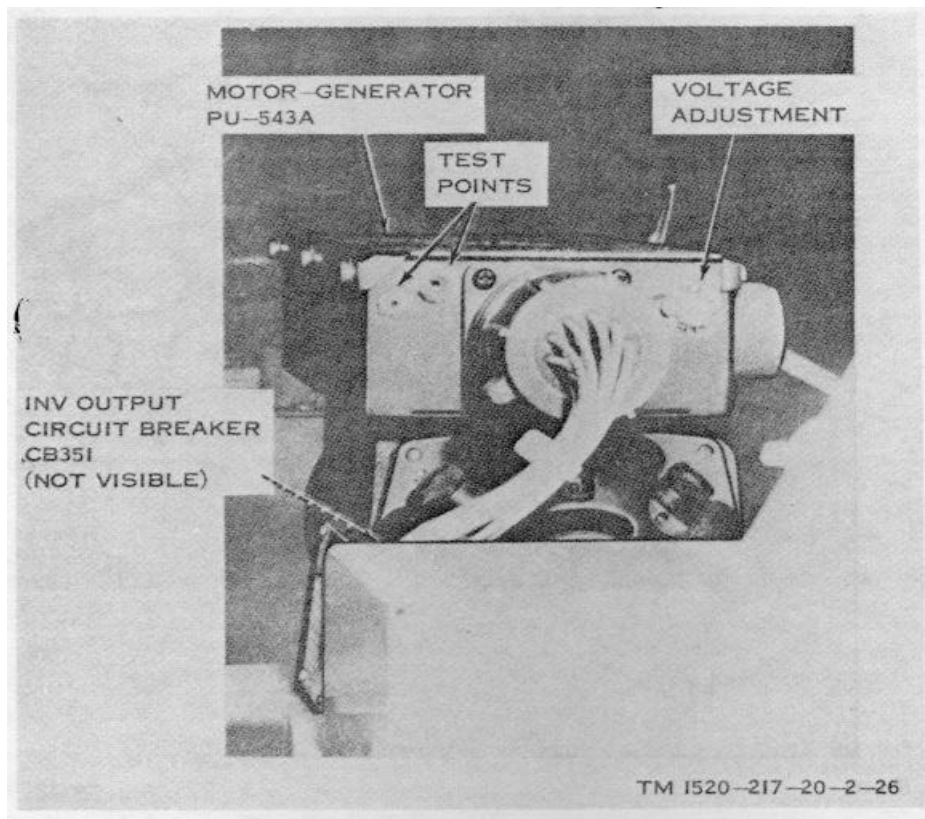

Figure 2-21. Motor-Generator PU-543/A location
(4) Install and secure connector to BB434/U.
(5) Install safety wiring on connector.
(6) Release support rods, clip rods to shelf, and close and secure nose electronics compartment door.
c. Removal of Motor-Generator PU-543/A (fig. 2-21).
(1) Using pair of diagonal pliers, cut and remove all safety wiring fastened to PU-543/A electrical plug.
(2) Disconnect electrical plug from PU543/A.
(3) Remove attaching screws -and remove PU-543/A from attic shelf.
d. Replacement of Motor-Generator PU-543/ A. (fig. 2-21).
(1) Position PU-543/A on attic shelf and secure in place with attaching screws.
(2) Connect electrical plug to PU--543A and safety wire plug.
2-26. Motor-Generator PU-543/A (fig. 2-21)